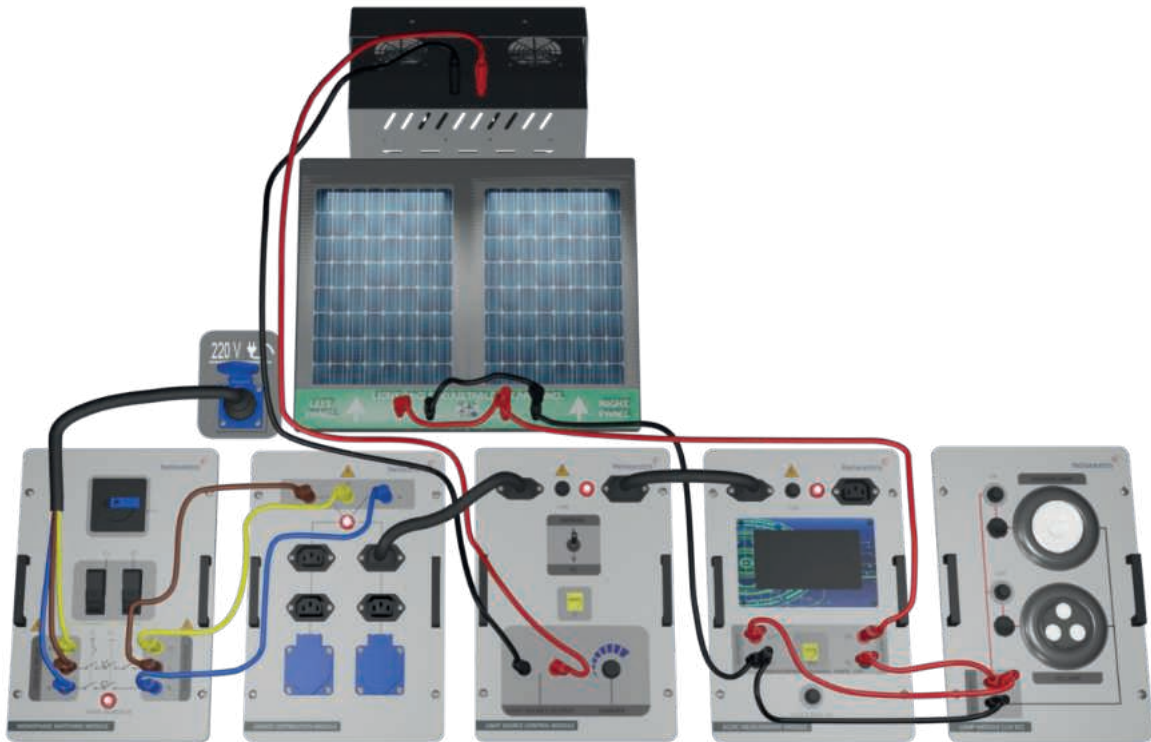

Figure-64. Installation Image of Direct Load Connection to Photovoltaic Panels
1. Set up the connection as specified in Figure-64. Ensure a constant level of light in the laboratory by creating an average scenario. Any alterations to the positions of the lamps or curtains will have an impact on the experimental outcomes.